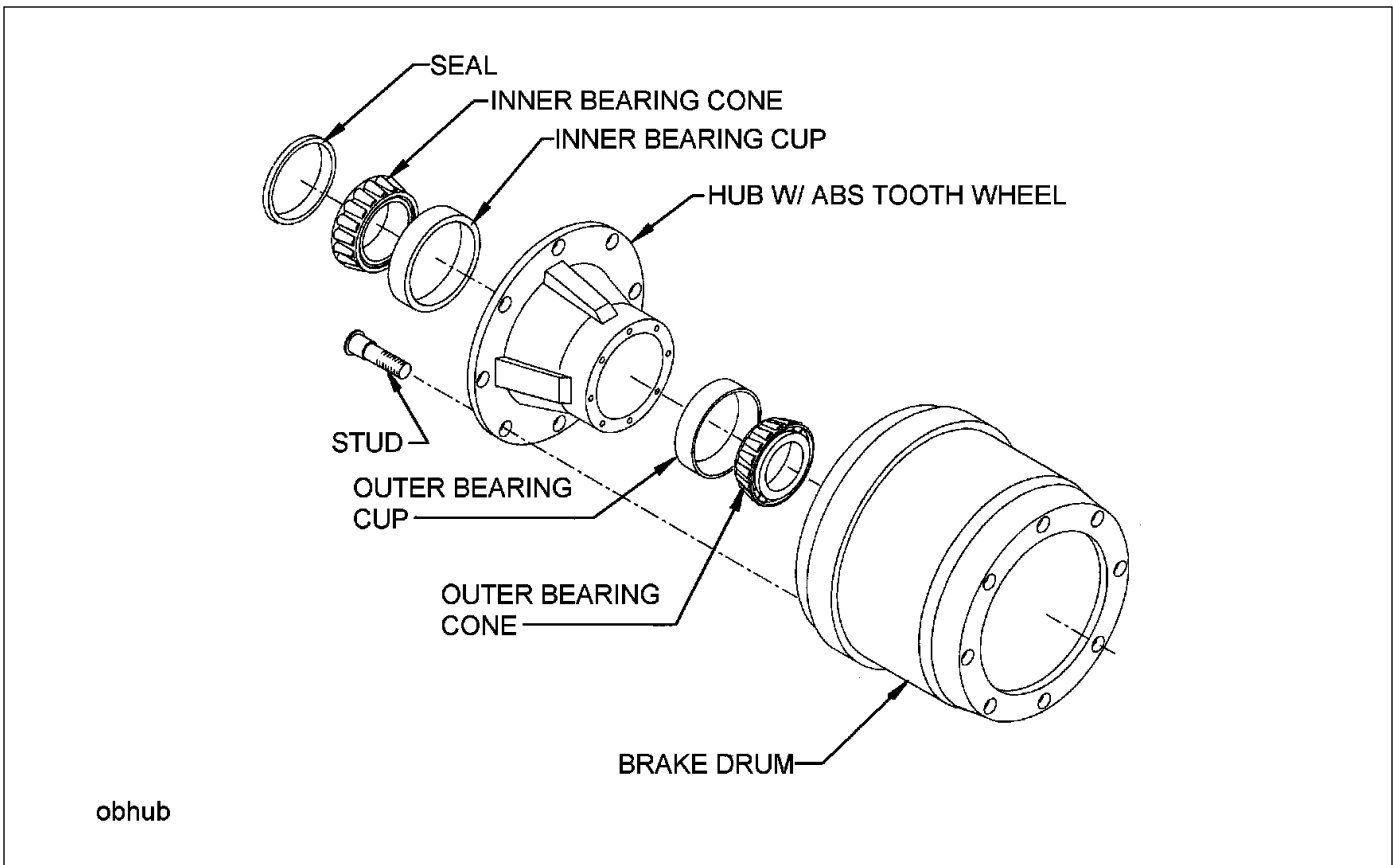

Figure 4-15: Outboard Mount Hub and Drum
3. Remove drum assembly (See Figure 4-15)
4. Replace the outboard mounted hub and drums as follows (**See Figure 4-15**):
- o. Place the drum over the hub and brake shoes being careful not to damage the threads on the studs (See Figure 4-15) Make sure the drum seats flat against the hub flange and mates properly with the hub pilot. There should be no interference between the brake drum pilot chamfer and the corner radius on the hub. If interference exists, the hub will not be able to function properly.
- q. If studs are marked “R” or “L”, right hand (R) hubs should be installed on the curbside of the vehicle, left hand (L) hubs should be installed on the driver side. Stud piloted wheels will use these studs with ball seat nuts.